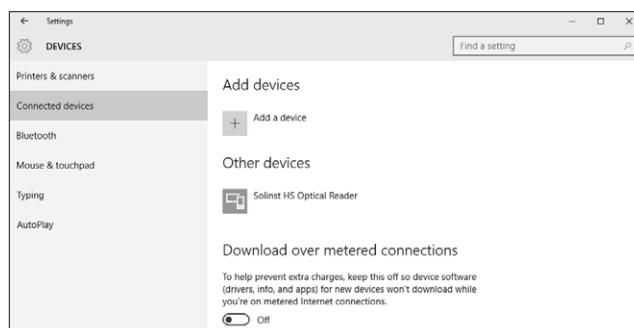

Figure 4-22 Installed Solinst USB Device
19. Once the installation is complete, this will be shown in the Devices > Connected devices Window. See Figure 4-22.